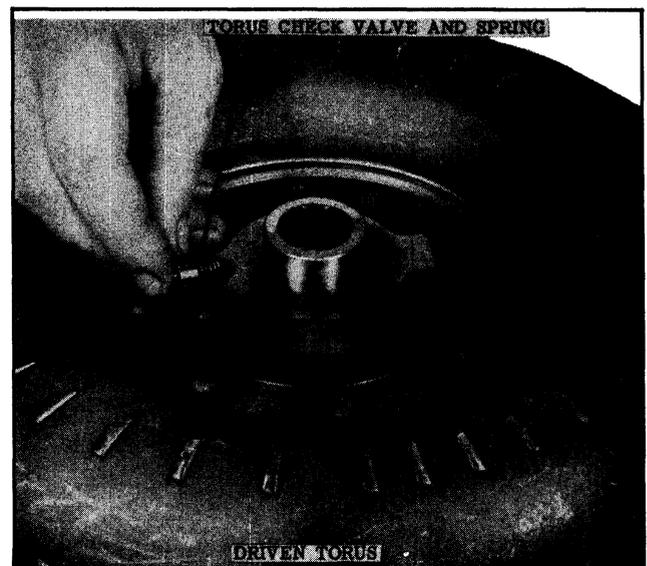

Fig. 3-127 Driven Torus Check Valve
2. Remove the torus check valve and spring. (See Fig. 3-127)